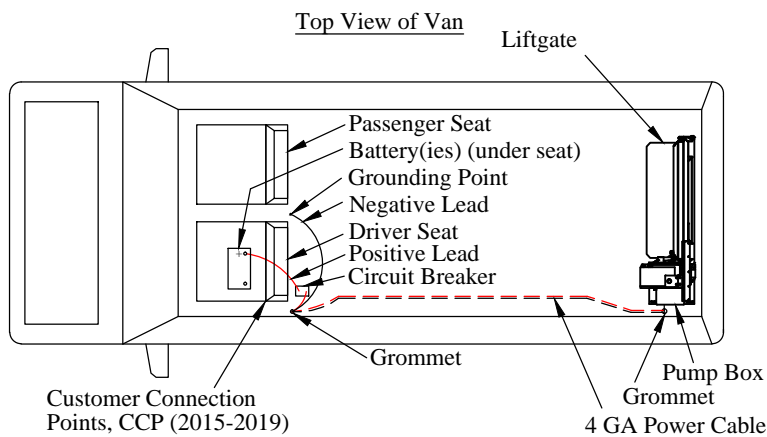

Figure 18: Electrical routing.
5. **Route** the power cables under the vehicle from the liftgate, along the frame, to a location under the driver door (Figure 18).